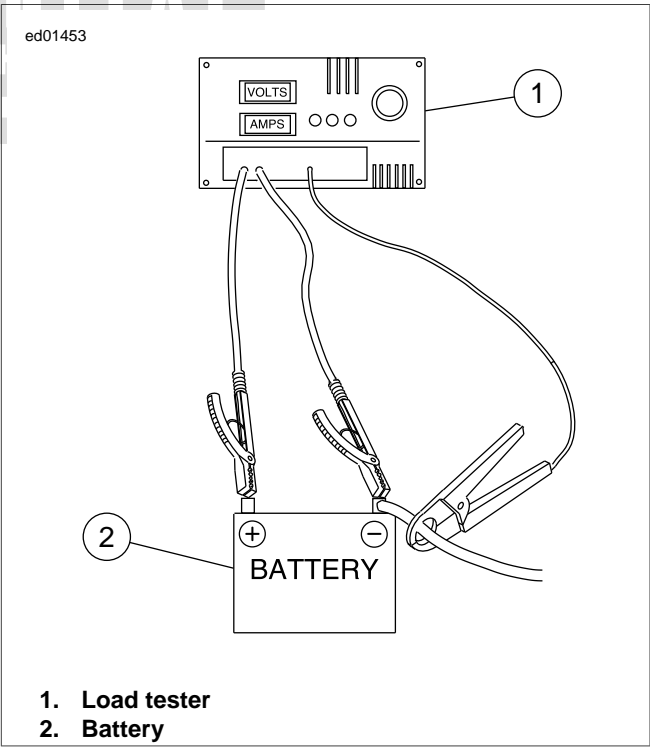

Figure 1-21. Check Current Draw (Ignition Switch On)
- 1. See Figure 1-21. To check for this condition, place load tester induction pickup or current probe pickup over battery negative cable.